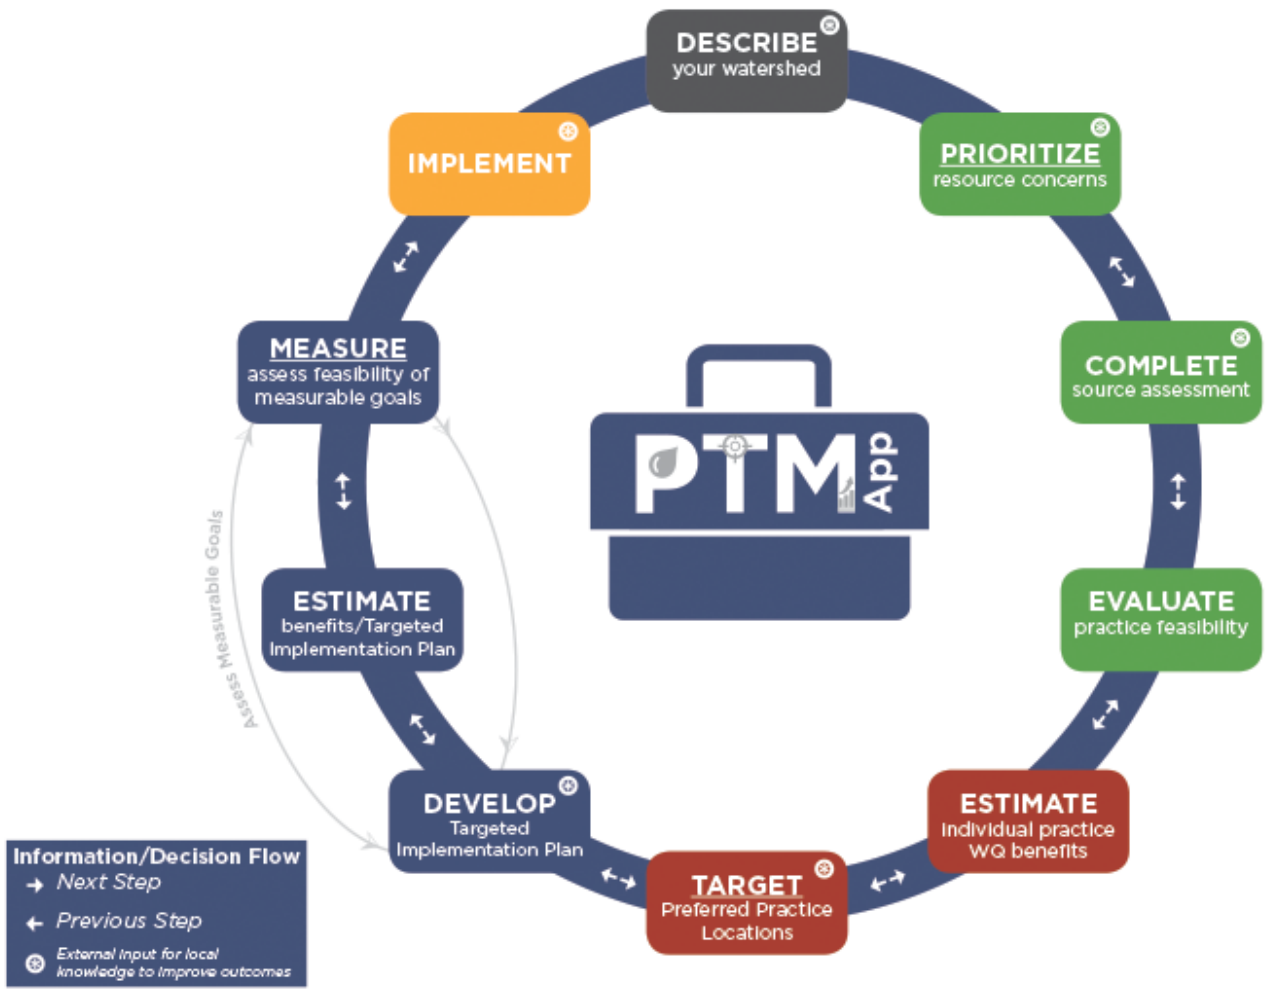

Figure 1. PTMApp Business Workflow
The Prioritize, Target, Measure Application for Desktop (PTMApp-Desktop) is a software solution that consists of an ArcGIS toolbar to assist practitioners with executing their strategies. The output products from PTMApp-Desktop can be used in a number of business workflows (**Figure 1**). The business workflows are tasks that soil and water conservation district (SWCD) and watershed district (WD) staff might undertake as part of daily work to prioritize and target the locations of projects and practices that provide measurable water quality benefits. These workflows, or a subset of the workflows, might be completed as part of implementation strategy development for an annual work plan, development of Watershed Restoration and Protection Strategies (WRAPS), accelerated implementation grants (AIG) through BWSR, or federal 319 grants.